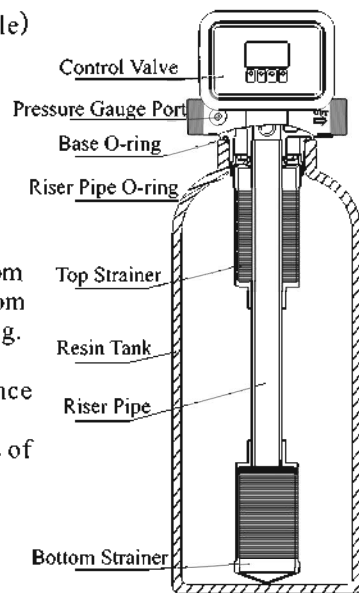

Figure 1-1
- ①The filter or softener should be located close to drain.
- ②Ensure the unit is installed in enough space for operating and maintenance.
- ③Brine tank need to be close to softener.
- ④The unit should be kept away from the heater, and not be exposed outdoor. Sunshine or rain will cause the system damage.
- ⑤Please avoid installing the system in one acid/alkaline, magnetic or strong vibration circumstance, because above factors will cause the system disorder.
- ⑥Do not install the filter or softener, drain pipeline in circumstance which temperature may drop below 5°C, or above 50°C.
- ⑦Install the system in the place where with the minimum loss in case of water leaking.
① Install control valve
b. As the Figure 1-1 shows, insert the riser pipe to the bottom strainer, glue the connection part, and put it into the bottom tank, cut off the exceeding pipe out of tank top opening. Plug the riser pipe in case of mineral entering.